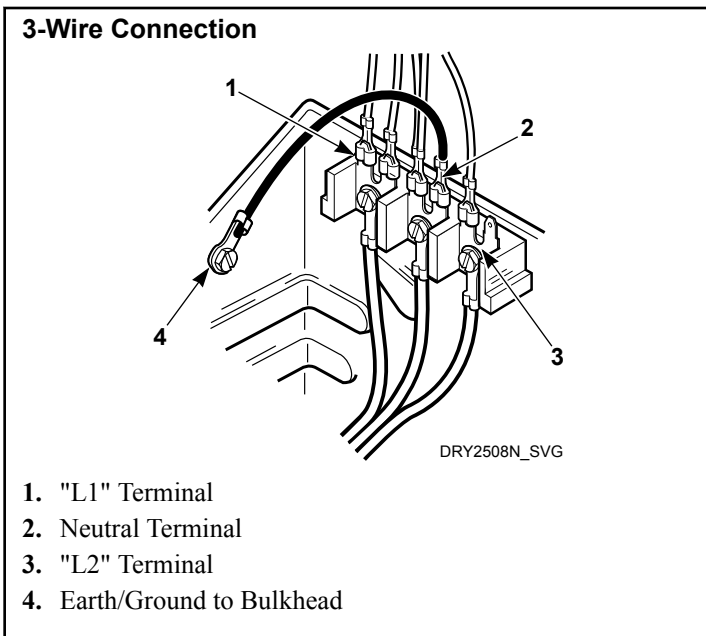

Figure 9
4. Use the three screws from the accessories bag to attach the power cord wires to the terminal block. Refer to Figure 9.